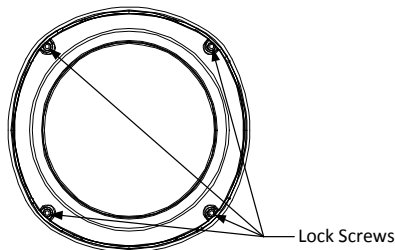

Figure 2-21 Loosen the Lock Screws
1. Loosen the four lock screws on the speed dome flange as shown in Figure 2-21.